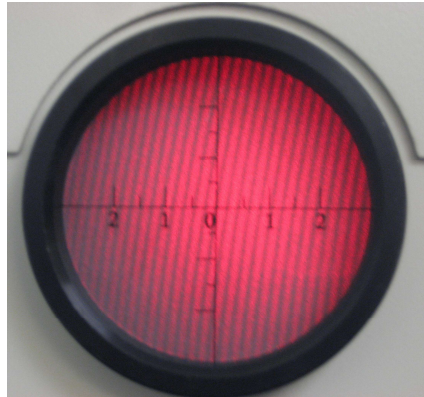

Figure 13 Photo of interference pattern observed on ground glass screen
- 2) Connect the FC/PC end of the single-mode fiber to the interferometer through the FC/PC connector labelled as “Fiber Optic Input”. The interference pattern should be observed on the ground glass screen as shown in Figure 13.
- 2) Connect the FC/PC end of the single-mode fiber to the interferometer through the FC/PC connector labelled as “Fiber Optic Input”. The interference pattern should be observed on the ground glass screen as shown in Figure 13. **Note:** ambient light may need to be turned off before observing the interference pattern if it is too weak to observe interference fringes under ambient light.